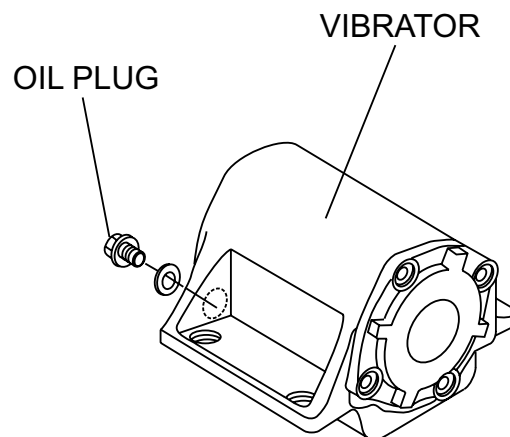

Figure 10. Vibrator Oil Plug
2. Check vibrator oil level by removing the oil plug (vibrator oil gauge) as shown in Figure 10. The oil level should be up to the oil plug. The vibrator holds 140 cc (approximately 0.3 pint). **IMPORTANT**, if oil is required, replace using only SAE10W-30 motor oil.
2. Place the Engine **ON/OFF** switch (Figure 10) in the **OFF** position.